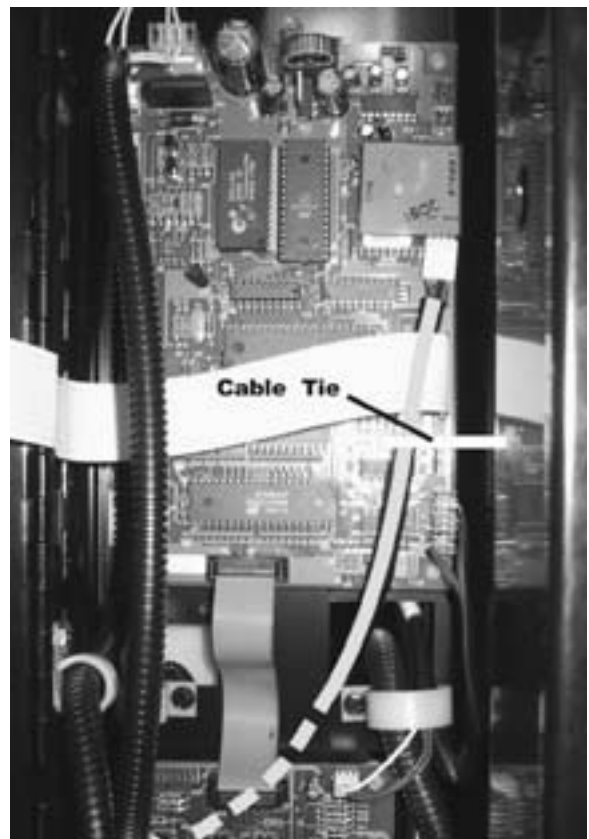

Figure 6
4. Route the cable harness (See Figure 6):